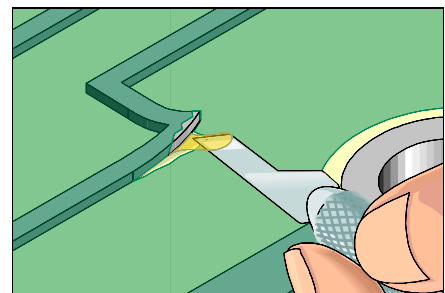

Figure 1: Apply a small amount of epoxy under the entire length of the lifted circuit.
5. Carefully apply a small amount of epoxy under the entire length of the lifted circuit. The tip of the Precision Knife may be used to apply the epoxy. (See Figure 1).